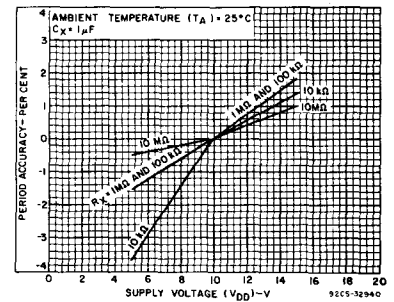

Fig. 11—Typical astable oscillator or Q, Q̄ period accuracy vs. supply voltage.
B. Variations Due to V_{DD} and Temperature Changes — In addition to variations from unit to unit, the astable period varies with V_{DD} and temperature. Typical variations are presented in graphical form in Figs. 11 to 18 with 10 V as reference for voltage variations curves and 25°C as reference for temperature variations curves.